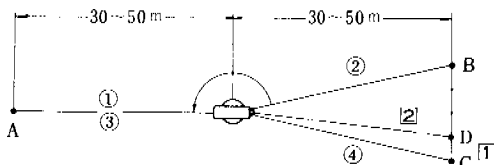

Fig. 39
1. If points B and C do not coincide, set up a point D located  $\frac{1}{4}$  of the length BC from the point C toward B. (Fig. 39)